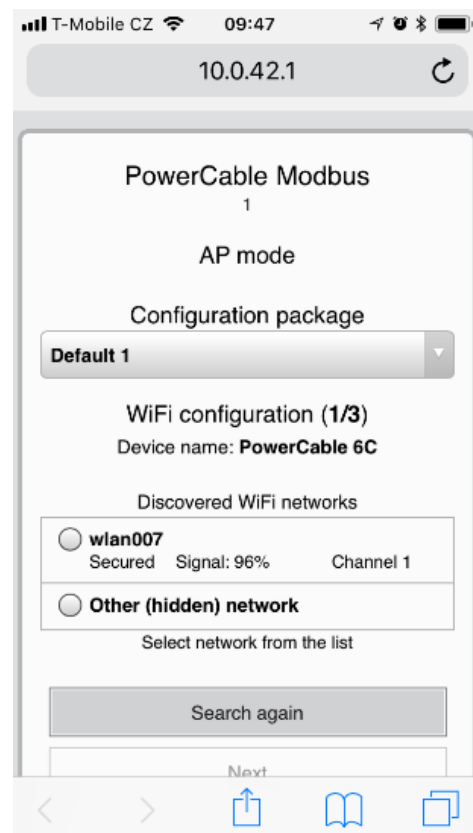

Figure 13 - Web Interface in AP mode
- Device configuration page should open automatically. If not, open a web browser and enter <http://10.0.42.1> You will see NETIO PowerCable WiFi configuration page. (Figure 13).